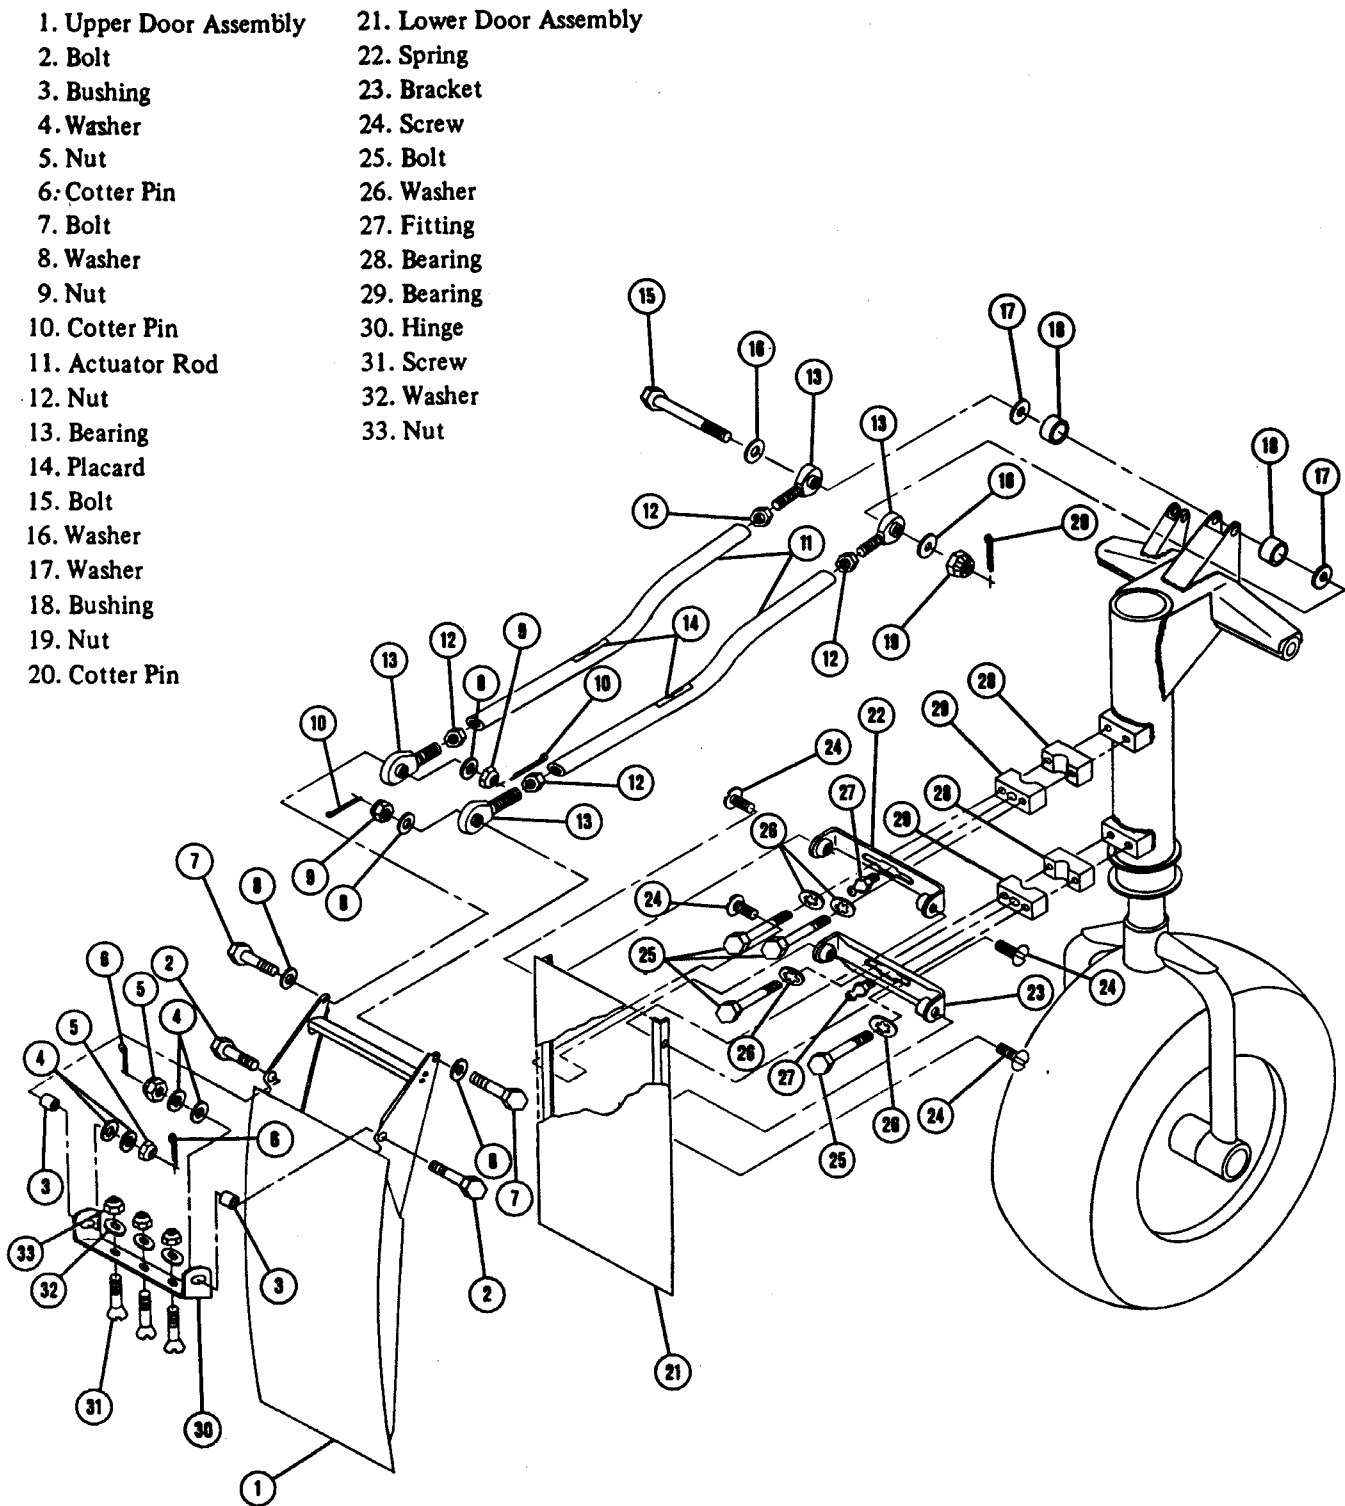

Figure 7-17. Nose Gear Door Installation, Aircraft Serial Number 76-30797 through Serial Numbers 78-30905.
a. On Aircraft Serial Numbers 76-30797 through 78-30905 refer to Figure 7-17 and perform the following procedures to adjust the nose gear doors.